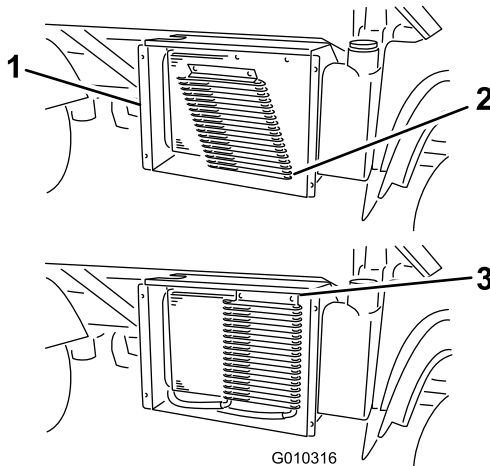

Figure 51
6. If equipped, rotate the latches and pivot the oil cooler away from the radiator (Figure 51).